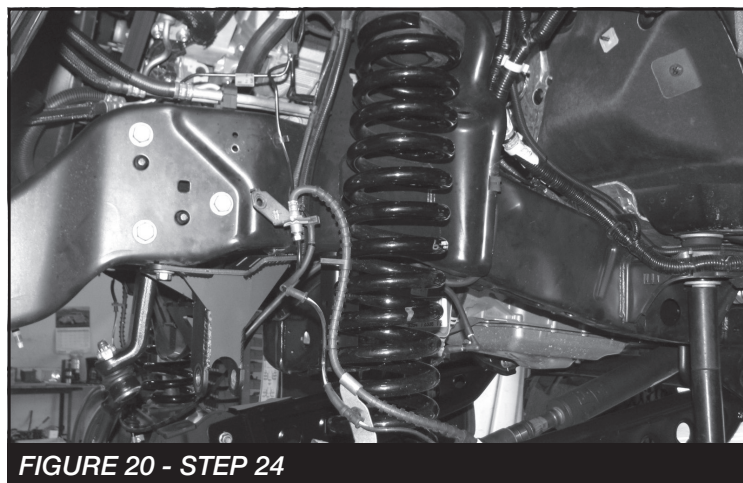

FIGURE 20 - STEP 24
24. Install FT30124BK (Coil Spring) using the factory upper isolator. **SEE FIGURE 20**